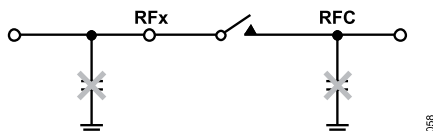

Figure 83. Avoid Large Capacitor Directly Connected to the Switch
- Avoid connecting capacitive terminations directly to the switch, as shown in Figure 83. A shunt capacitor can store a charge that can potentially lead to hot switching events when the switch opens or closes, affecting the lifetime of the switch.